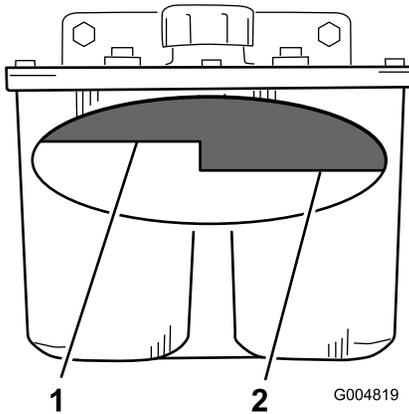

Figure 95
- Clean the area around the filler neck of the hydraulic tank (Figure 95).
- Remove the cap from the filler neck and look inside to check if there is fluid in the reservoir (Figure 95).
Note: The fluid level should be to the top of the hot level of the baffle, when the fluid is hot (Figure 95).